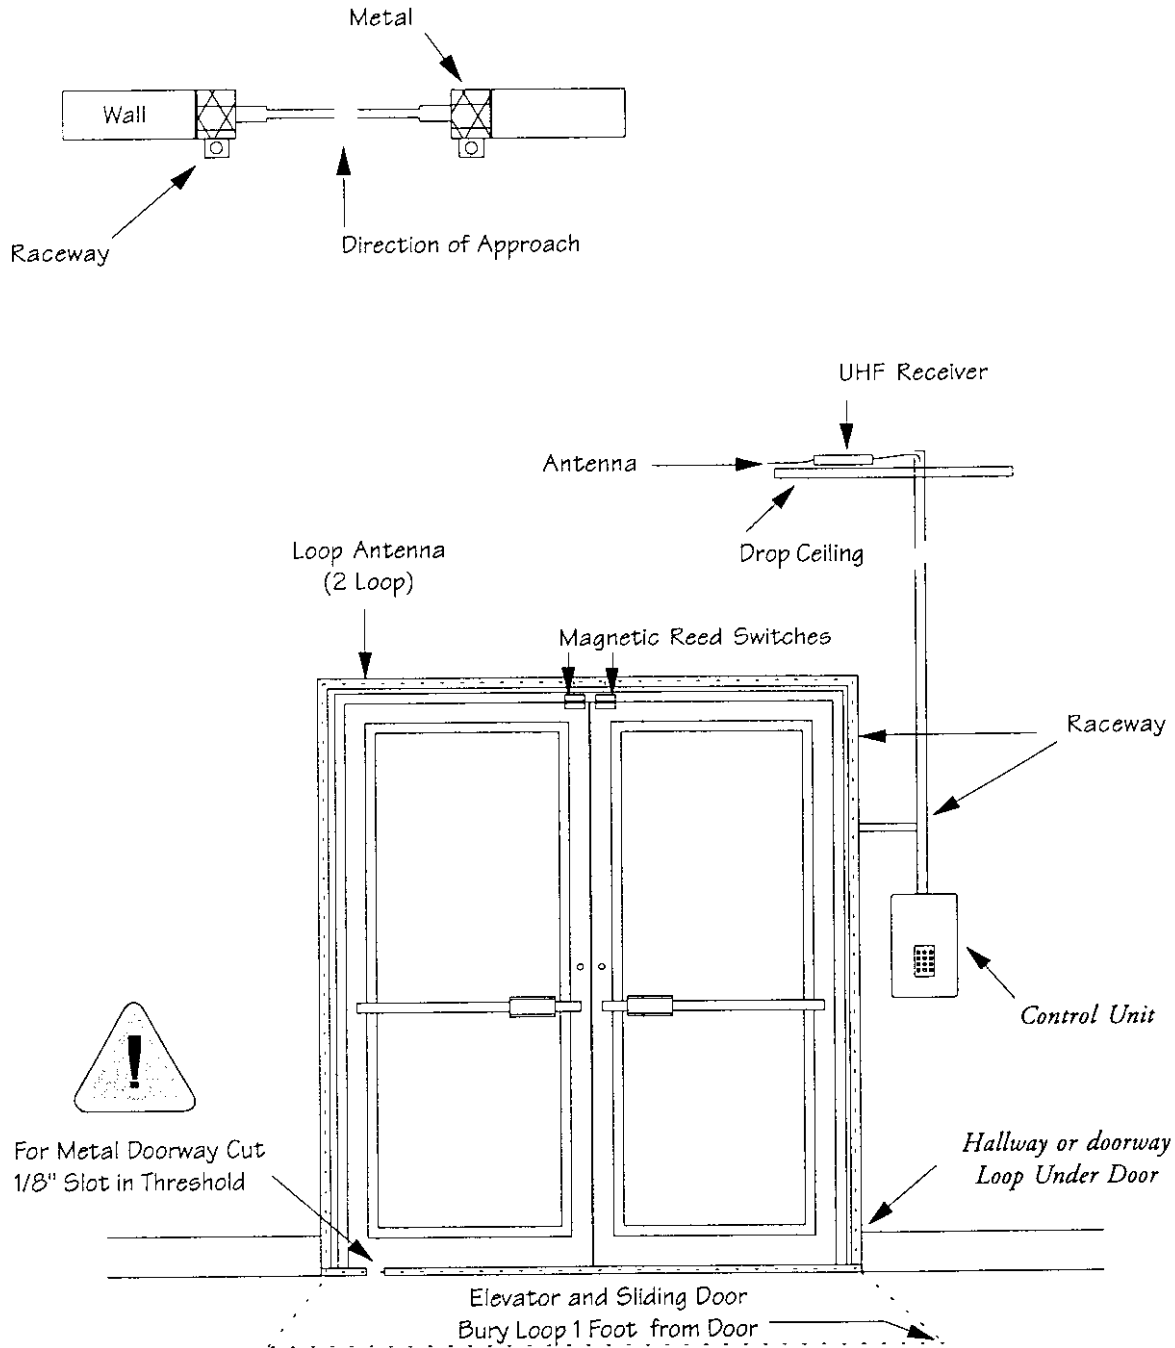

Figure 8: Loop Antenna Installation on Double Door.
1. Attach the raceway around the doorframe along both sides and across the top (see figures 8 and 9).
Note: If the doorframe is a complete metal loop (top, sides, and bottom are one continuous piece), looping it with the alarm antenna will not work effectively. The solution is to cut an 1/8th inch gap in the frame at the bottom (see figures 8 and 9).
4. Once the wire loop is in place, install the corner clip pieces on the raceway and fill in the groove cut in the floor with tile cement or similar material. Replacement tile may also be placed over the wire if desired (see figures 8 and 9).
2. Cut the floor straight out from both sides of the area 6-12 inches, then across. The groove must be deep and wide enough for the wire. A circular saw with a masonry blade or drilling holes then chiseling out the excess are common ways of forming the groove across the bottom of the floor. **Note: A circular saw with a masonry blade creates excessive dust and smoke** (see figures 8 and 9).
4. Once the wire loop is in place, install the corner clip pieces on the raceway and fill the groove cut in the floor with tile cement or similar material. Replacement tile may also be placed over the wire if necessary (see figures 8 and 9).